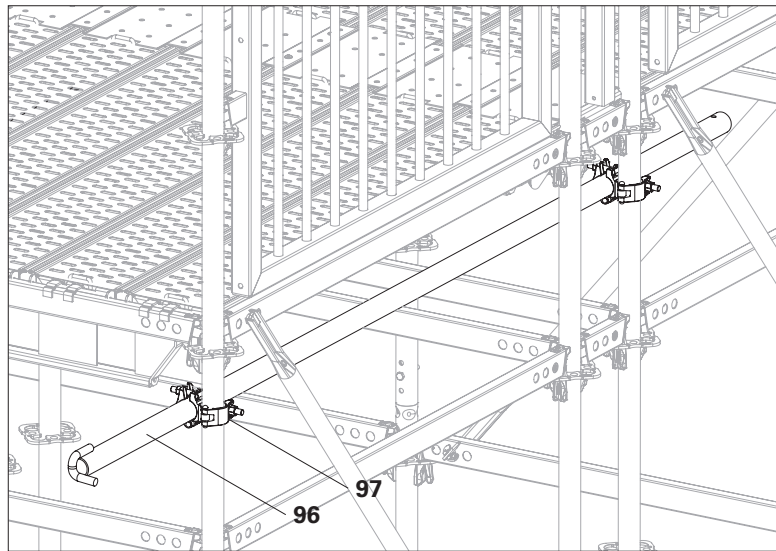

Fig. B5.02
Fit the wall ties to the 1st and 3rd standards. (Fig. B5.02).
1. Fit the wall ties, e.g. UWT 270 (**96**), to the standards using standard couplers (**97**). (Fig. B5.02)